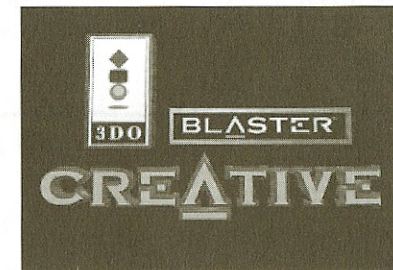

Figure 4-13: The 3DO Blaster introduction screen.
2. Wait a few seconds for the 3DO Blaster introduction screen shown in Figure 4-13 to appear.